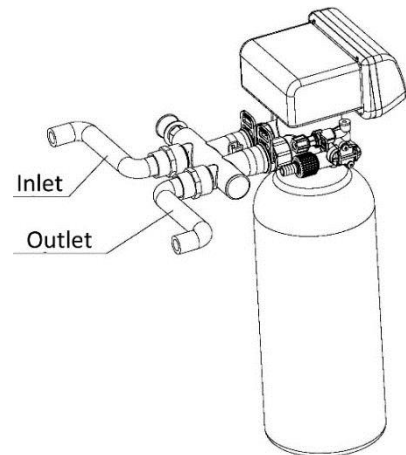

Figure 1-3
- As Figure 1-3 shows; connect inlet pipe with inlet connector of bypass via 1" NPT female connector. Connect outlet pipe with outlet pipe of bypass via 1" NPT female connector.